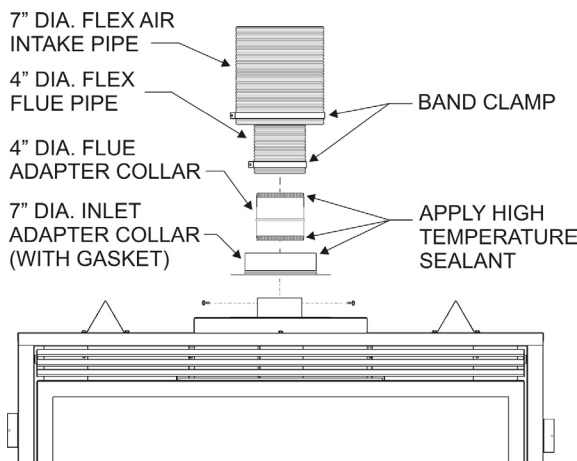

Figure 39
17. To attach the vent connections at the fireplace, be sure the 7" diameter adapter collar has been installed per step 3. Apply a bead of silicone sealant to the 4" diameter flex connector, then slide the flex pipe adapter collar into the fireplace flue collar and secure by installing a minimum of two (2) screws through the flue collar and into the adapter. **See Figure 39.**
18. Apply sealant to the 7" diameter adapter collar, slide outer flex vent over the collar, then secure with a 7" diameter band clamp. **See Figure 39.**